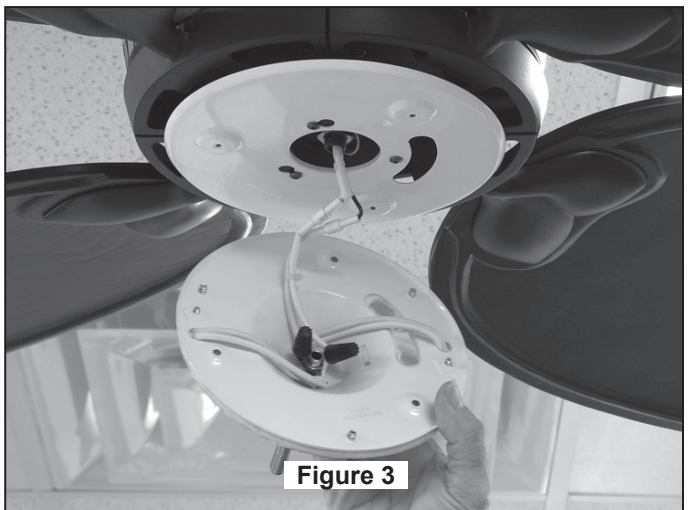

Figure 3
7. While pulling up on the hanger ball, securely tighten the two 3/16-24 x 3/8" setscrews in the downrod support. (Figure 3)
4. Carefully lift the fan and seat the downrod/hanger ball assembly on the hanger bracket that was just attached to the ceiling joist. Be sure the groove in the ball is lined up with tab on the hanger bracket. (Figure 3)
5. Attach the safety cable to ceiling support cable. Slide cable clamp onto safety cable (from fan). Place the end of cable through the loop of ceiling support cable. Pull as much cable through loop as possible. Feed end of cable into clamp hole and firmly tighten screw (Figure 3). Cut off excess safety cable.
- Connect wires as indicated: (Figure 3)
**1. Operating & Using Remote Transmitter (Figure 3):** Install 9 volt battery (If not using for long periods of time, remove battery to prevent damage to transmitter). Store the transmitter away from excess heat or humidity.
3. Securely attach plugs from motor to sockets on Downlight Support Plate Assembly (Figure 3)